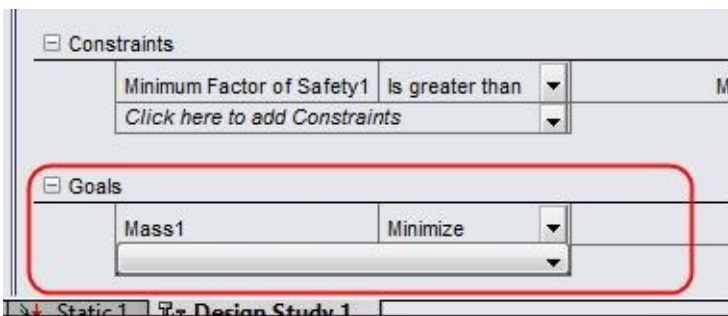

Figure-29. Goal added in Design Study
- Click on the **OK** button from the **PropertyManager** to set the mass to be minimized. The **Mass** will be added as goal in the **Design Study** pane; refer to Figure-29.